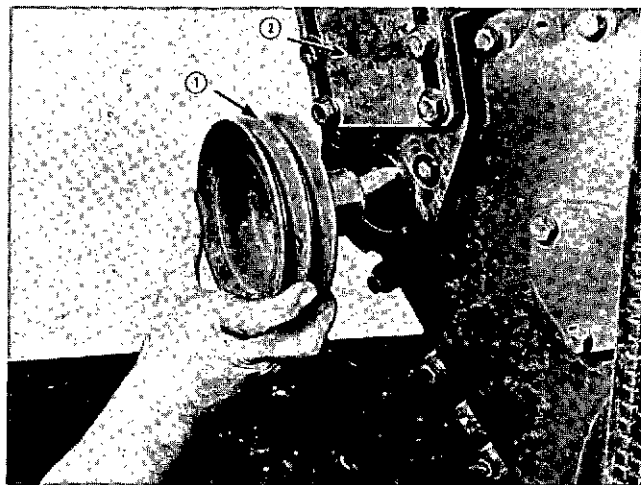

Fig. 0-25, V40058. Removing auxiliary drive pulley
- b. Using ST-647 Puller or equivalent, remove pulley from shaft (1, Fig. 0-25).
5. Remove brackets (2, Fig. 0-25), as used.